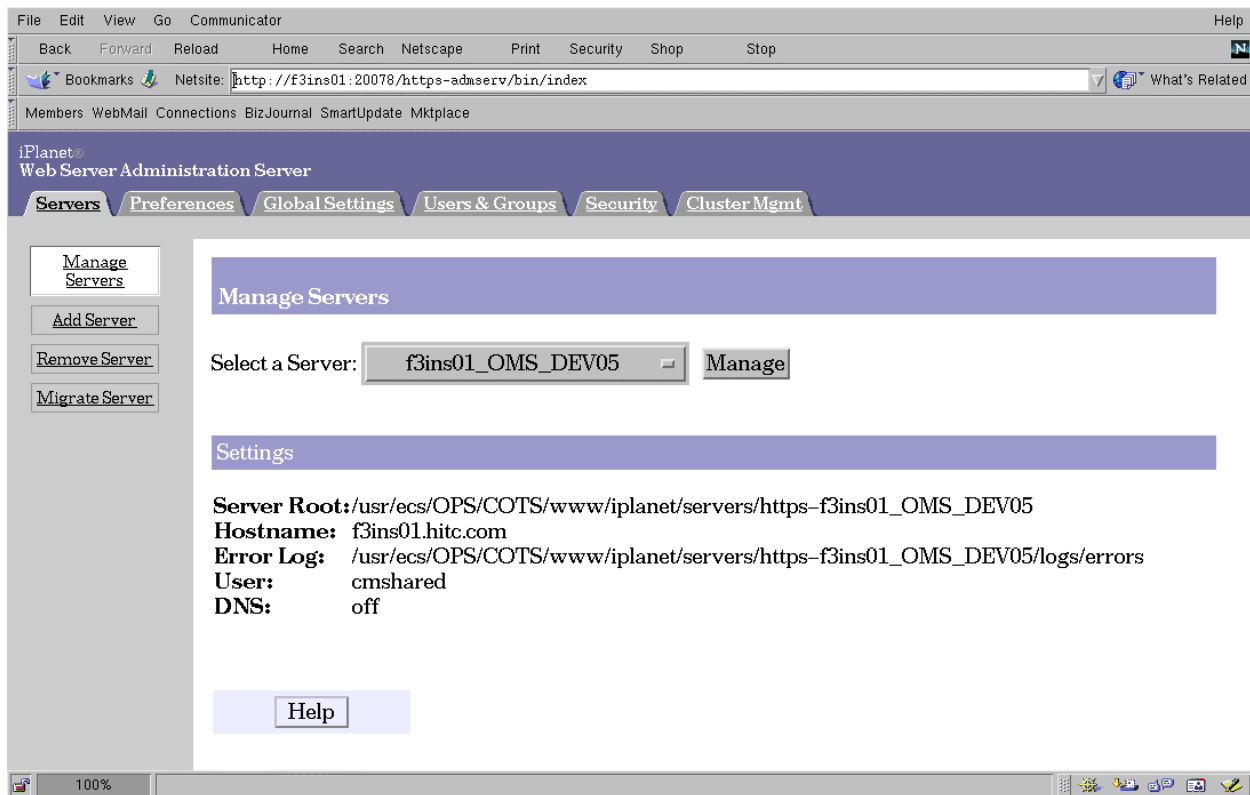

Figure 4.12.4-1. iPlanet Web Server Administration Server Screen
- Servers tab (shown in Figure 4.12.4-1) - for adding (i.e., creating) and removing web server instances and invoking the Server Manager GUI. Operators invoke the Server Manager GUI by first selecting a web server from the tab's Select A Server pulldown menu, then pressing the Manage button
- Preferences tab (shown in Figure 4.12.4-2) – for starting and stopping the server and configuring runtime options for it such as port number, MIME types, caching, thread pools and performance tuning parameters